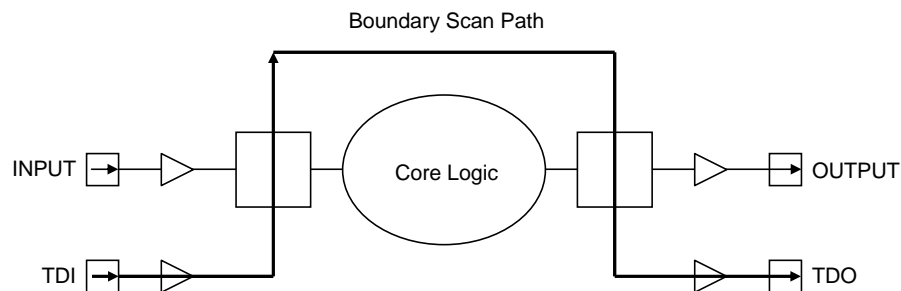

Figure 6.4.3 Test Data Flow While PRELOAD is Selected
- **PRELOAD** allows the boundary scan register to be initialized before another instruction is selected. For example, prior to selection of the EXTEST instruction, initialization data is shifted into the boundary scan register using PRELOAD as described in the previous subsection. PRELOAD permits shifting of the boundary scan register without interfering with the normal operation of the system logic. The flow of data for the PRELOAD phase of the SAMPLE/PRELOAD instruction is shown in Figure 6.4.3.